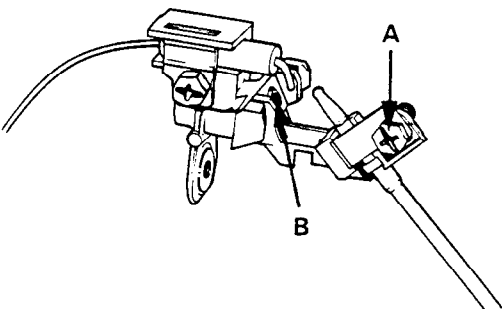

Fig.9
b) Clean the orifice (B) by brushing and blowing through from the bracket end of the head assembly (see fig. 9).
- e) Remove screw (C) securing thermocouple and retaining plate (see section 6.6 fig. 9).